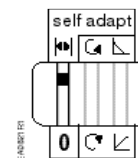

Figure 12. Self-adapt Switch in the On Position.
2. Set the self-adapt DIP switch to  (ON). See Figure 12.